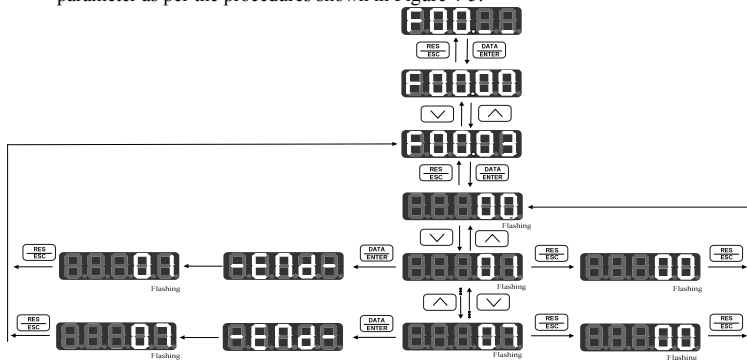

Figure 4-5 Parameter Saving and Resetting Procedures
- Follow the viewing procedures to enter the function code first, and then editing the parameter refers to the procedures shown in Figure 4-5.
- Take F00.03 for instance, its original parameter value is 0, save or reset the parameter as per the procedures shown in Figure 4-5.